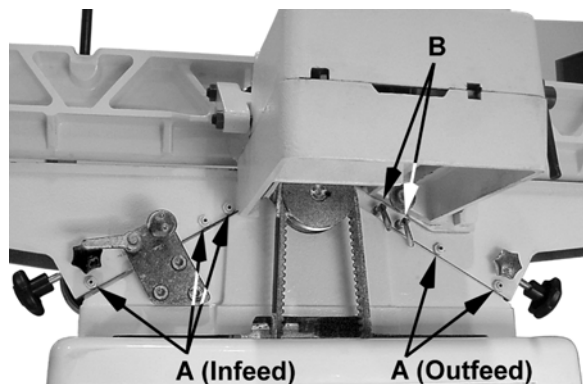
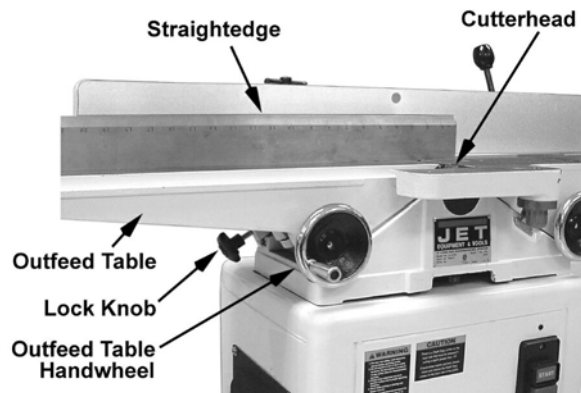

Figure 18
Figure 25
To adjust (refer to Figure 18):
3. Place a straightedge upon the outfeed table and extend it over the cutterhead (Figures 25 and 26).
5. Loosen both *gib lock screws* (B, Fig. 18) and the *lock knob* (Figure 25).
7. Lock the *outfeed table* at that setting by tightening the *lock knob* (Figure 25) and *gib lock screws* (B, Fig. 18). The outfeed table adjustment is complete.